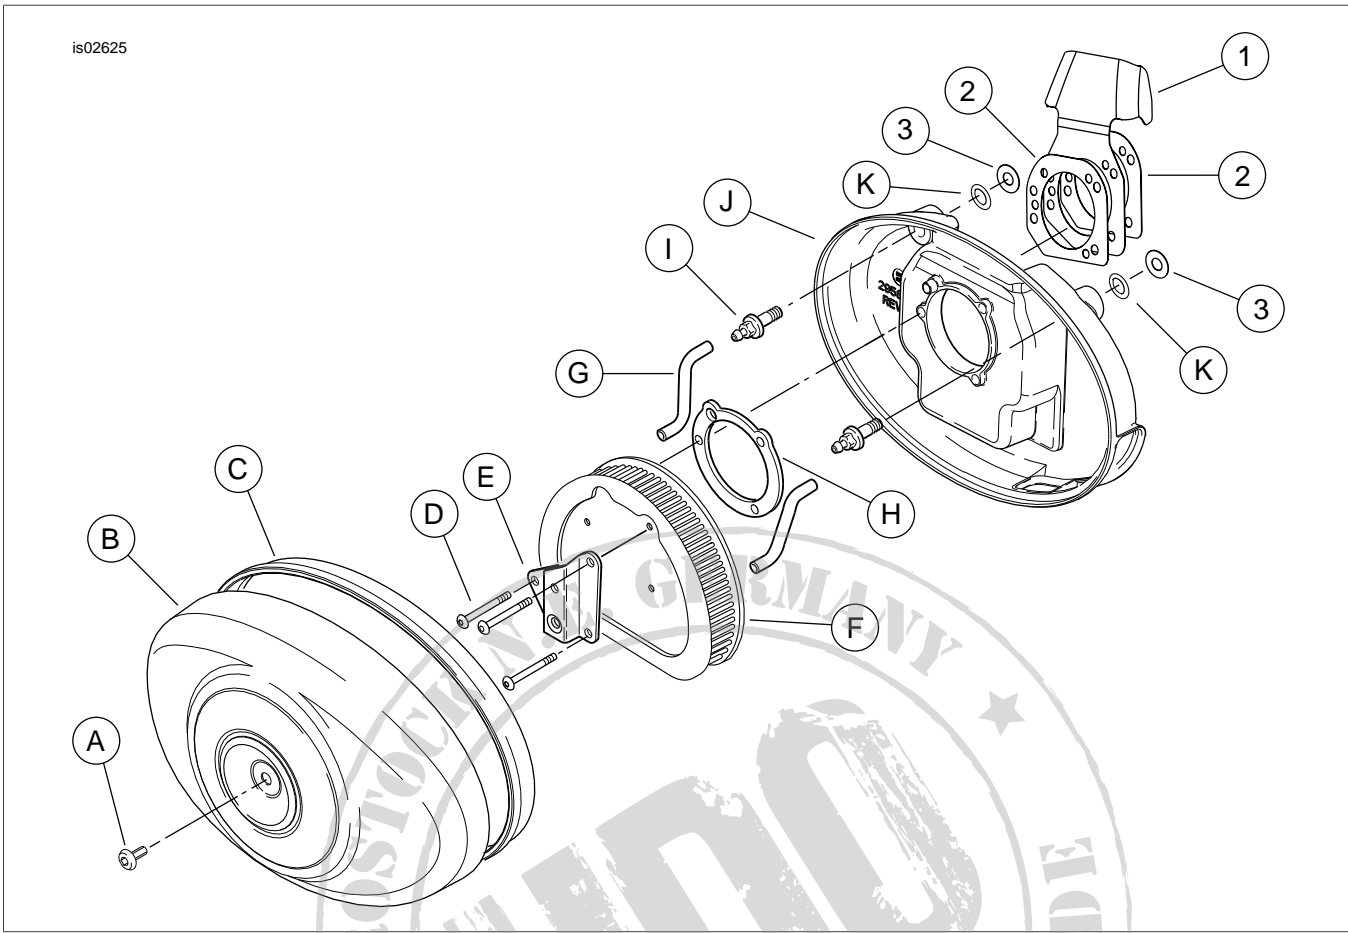

Figure 1. Service Parts: Chrome EFI Cover
See Figure 1 and Table 1.
1. See Figure 1. Remove screw (A) that holds the air cleaner cover (B) and seal (C).
2. Remove three T27 TORX® screws (D) to release the cover bracket (E) from the filter element (F).
3. Remove the filter element, pulling the two breather tubes (G) from hole on the inboard side of element.
4. Remove the two breather tubes (G) from the fittings on the two cylinder head breather bolts (I).
5. Remove the two breather bolts (I) and O-ring seals (K) from the air cleaner backplate (J) with a 7/16 inch deepwell socket.
6. Remove the backplate and gasket (H) from the injection module.
7. Aligning the flat edge of a new cover gasket (2) with the backplate molded tab, install a gasket (2), chrome cover (1) and second gasket, in order, on the air cleaner backplate.
8. Install the breather bolts through the air cleaner backplate. Re-install O-ring seals onto each breather bolt. Install a washer (3) from the kit on each breather bolt. Apply Loctite 243 to the breather bolts and align holes in the backplate with the holes in the cylinder heads and install the breather bolts. Use a 7/16 inch deepwell socket and alternately tighten the breather bolts to 120-144 **in-lbs** (13.6-16.3 Nm).